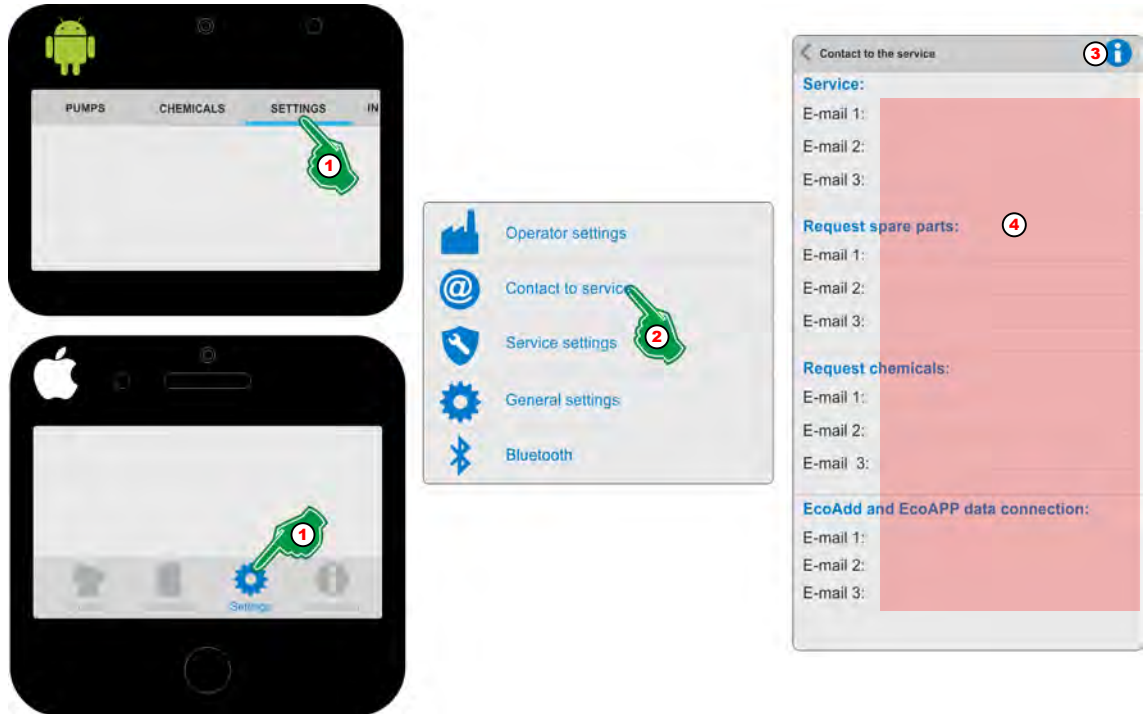

Fig. 4: Input the service contacts
1. ➤ Select [Settings] (Fig. 4, Pos. 1).
2. ➤ Select [Contact to service] (Fig. 4, Pos. 2).
3. ➤ With the selection of the [Info] ⓘ Symbol (Fig. 4, Pos. 3), the display will be:
4. ➤ Fill in all form fields (Fig. 4, Pos. 4).